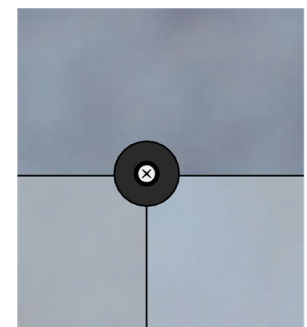

Figure 4
D. Bridging Insulation Boards: Use one fastener to bridge a maximum of three adjacent boards. **Reference Figure 4.** When bridging boards, center fastener at intersection of board joints to maximize washer surface on each board.